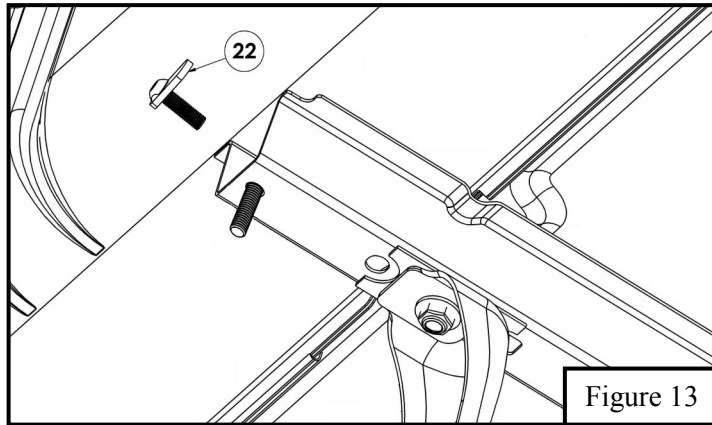

Figure 13
13. If the bed rail does not curve and instead has an open end with an existing hole, insert supplied M10 bolt plate (Item 22) through the existing hole. Then Install Rear Top Isolator Bracket (Item 24) with supplied M10 hardware and previously removed Factory M12 Bolt. See **Figures 13 and 14**